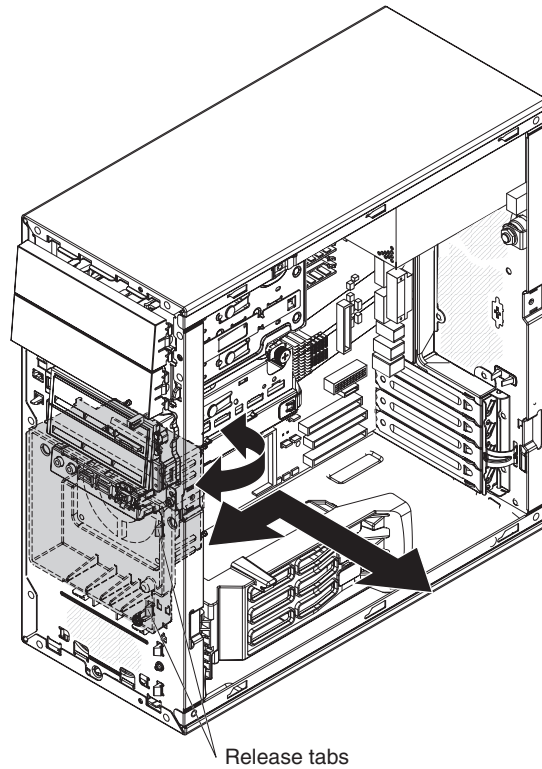

Figure 17. Removing the fan housing
9. From the front of the computer, press down and inward on the two retention tabs that secure the top of the fan housing to the chassis (see Figure 17).